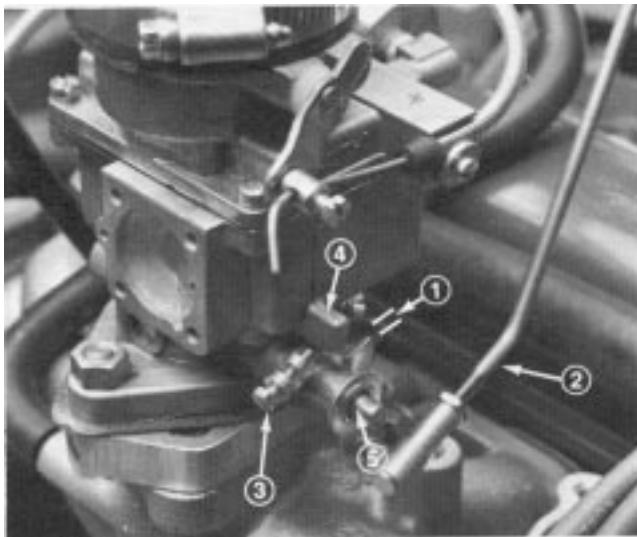

Figure 38
1. With engine shut off, move throttle control to FAST position and open hood. Check between the throttle arm and the stop on the carburetor base to make sure there is  $1/32"$  (0.8 mm) gap (Fig. 38). If gap is not correct, adjust throttle rod (Fig. 38) by turning ball joint ends until gap is  $1/32"$  (0.8 mm). If gap is correct, proceed to step 2.
3. Rotate throttle arm closed until it contacts stop (Fig. 38).
5. Release throttle arm, loosen jam nut on governor low idle speed screw and adjust it to attain  $1500 \pm 100$  rpm (Fig. 38).